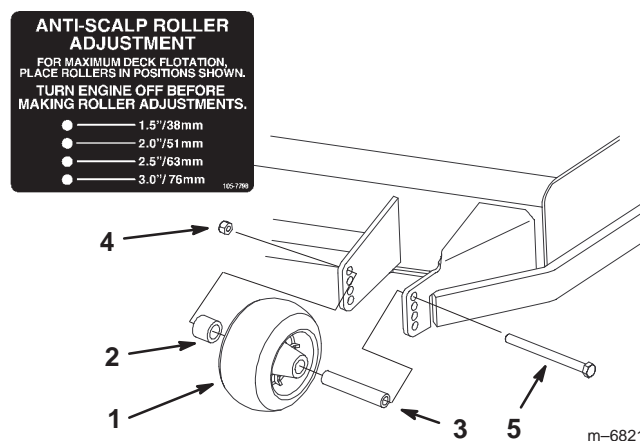

Figure 18
2. After adjusting the height-of-cut, adjust the rollers by removing the flange nut, bushing, spacer, and bolt (Fig. 18).
3. Select a hole so the anti-scalp roller is positioned to the nearest corresponding height-of-cut desired (Fig. 18).
4. Install the flange nut, bushing, spacer, and bolt. Torque to 40–45 ft-lb (54–61 N-m) (Fig. 18).